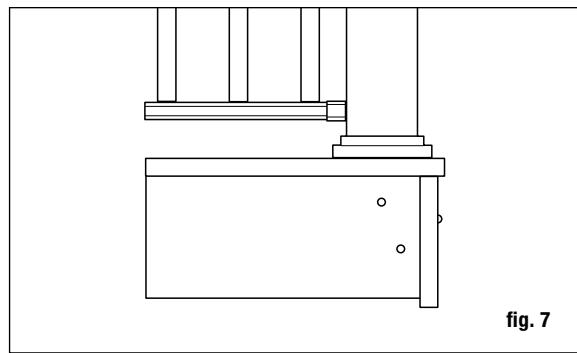

fig. 7
Step 3 Position, plumb with a level, and clamp the railing post on the interior face of the joist. Plumb again. The 4x4 railing post should be bolted to the inside of the joist using two 1/2" x 6" galvanized carriage bolts. Corner posts use a third carriage bolt inserted through the adjacent joist (fig. 7).
Step 3 Position, plumb with a level, and clamp the stair railing post on the interior face of the stringer. Plumb again. The 4x4 stair railing post should be bolted to the inside of the stringer using two 1/2" x 6" galvanized carriage bolts. Corner posts use a third carriage bolt inserted through the adjacent joist (fig. 7). Ground level posts should be set in concrete.